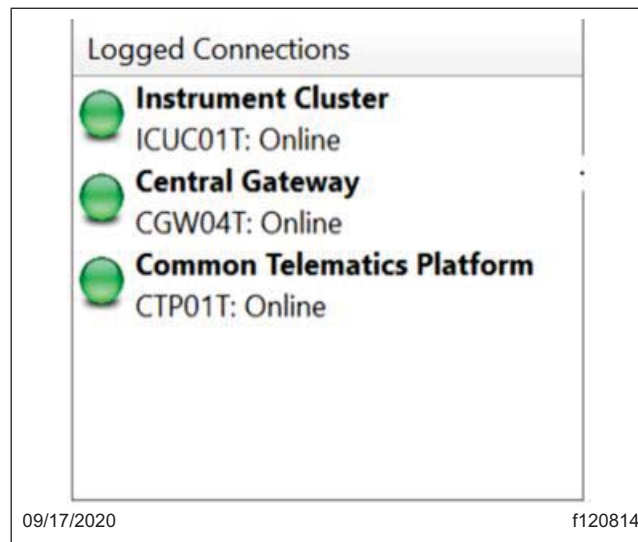

Fig. 3, DiagnosticLink Logged Connections Panel
- Wait until all the three devices are fully connected and the connection indicators turn green. See Fig. 3.